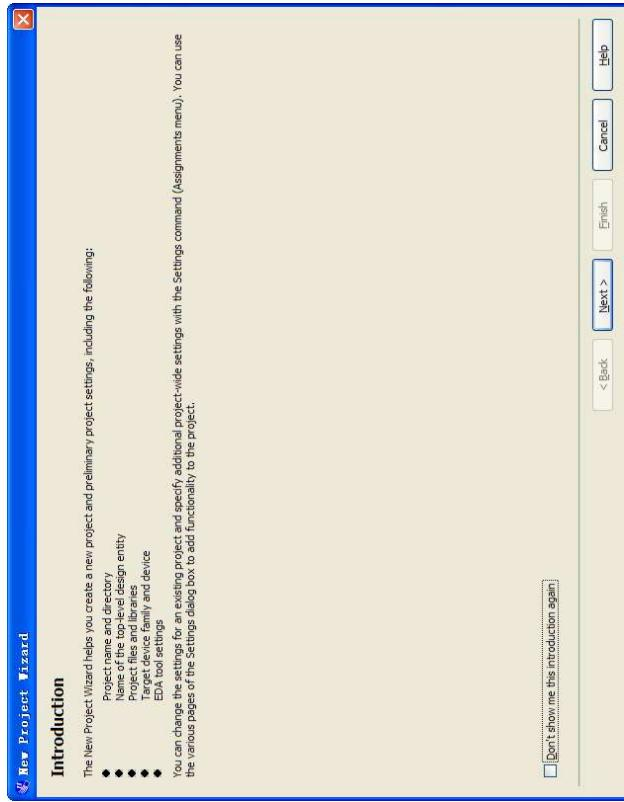

Figure 6-8 New Project Wizard introduction
1. In the Quartus II software, select **File > New Project Wizard**. The Introduction page opens, as shown in Figure 6-8.